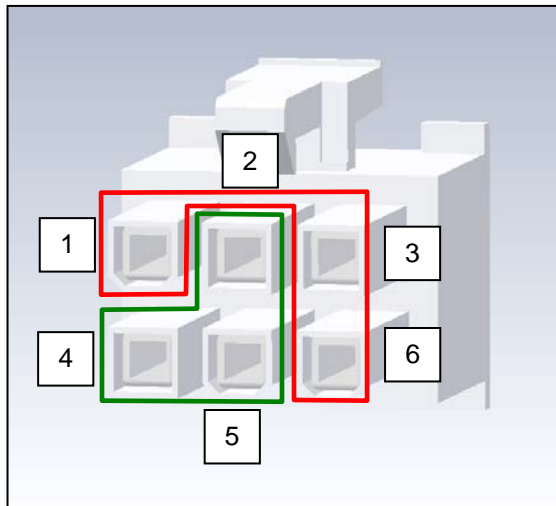

Figure 3-184. Motor Plug
- b. Using a DVOM, check the continuity on the motor end of the plug. First, check between pins 1 and 3, 1 and 6, and 3 and 6. Then check for continuity between 2 and 4, 2 and 5, and 4 and 5 (see figure 3-184 for pin locations). If all six checks pass, the motor is not faulty, and there is a problem with the motor cable. Check the cable and connections to make sure the wires are not broken or pinched, and check pins to ensure they are still connected.